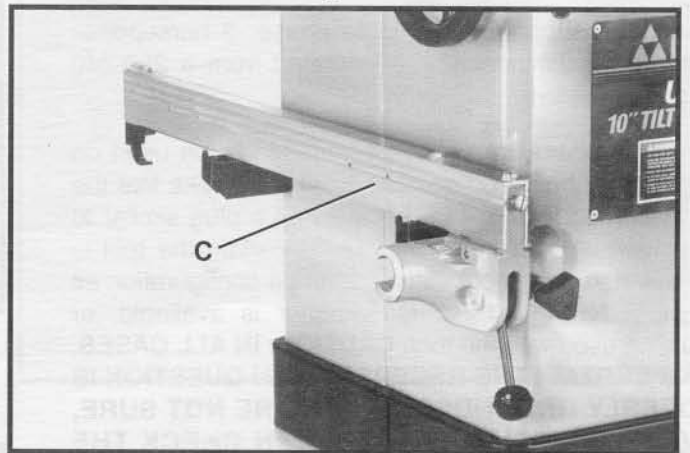

Fig. 39
2. Figure 39 illustrates the Jet-Lock fence (C), (when not in use) positioned on the two holder brackets.